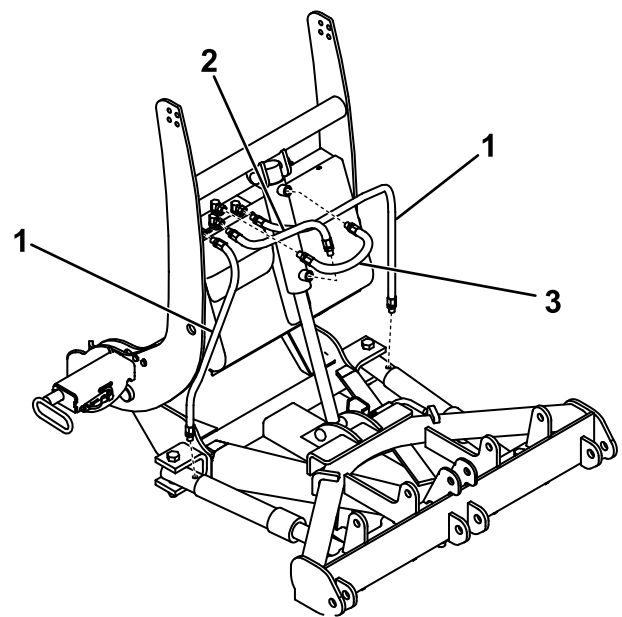

Figure 10
- 1. Install the 1/4 inch end of the medium hose to the middle fitting on the hydraulic manifold (Figure 10). Turn the fitting until it is finger tight, then turn it 2 to 3 more times.
- 2. Install the 3/8 inch O-ring end of the medium hose to the lower fitting on the lift cylinder (Figure 10). Turn the fitting until it is finger tight, then turn it 2 to 3 more times.
- 3. Install the 1/4 inch end of the long hose to the right fitting on the hydraulic manifold (Figure 10). Turn the fitting until it is finger tight, then turn it 2 to 3 more times.
- 4. Using thread compound, install the 3/8 inch end of the long hose to the right angle cylinder (Figure 10). Turn the fitting until it is finger tight, then turn it 2 to 3 more times.
- 6. Using thread compound, install one end of the short hose to the upper fitting on the lift cylinder (Figure 10). Turn the fitting until it is finger tight, then turn it 2 to 3 more times.
- 7. Connect the free end of the short hose to the rear fitting on the hydraulic manifold (Figure 10). Turn the fitting until it is finger tight, then turn it 2 to 3 more times.